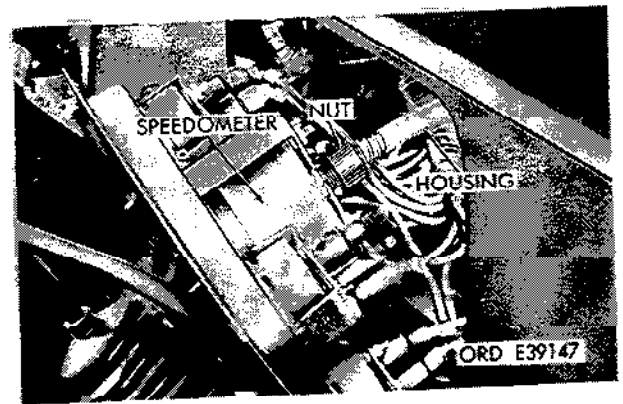

Figure 2-234. Disconnect speedometer cable.
(20) Unscrew nut securing speedometer cable housing to speedometer (fig. 2-234).
(18) Pull instrument cluster assembly away from dash panel, and disconnect speedometer cable nut and its housing from speedometer gage (fig. 2-234).
(3) Refer to figures 2-234 through 2-236 and remove instrument cluster. Grasp cables and pull, separating male and female connectors between front and rear harness assemblies (cables Nos. 27, 28, 24, 23, 22 and 21).